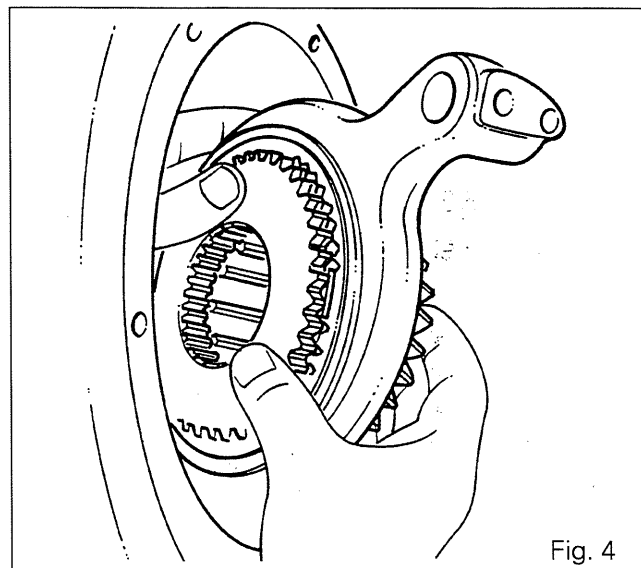
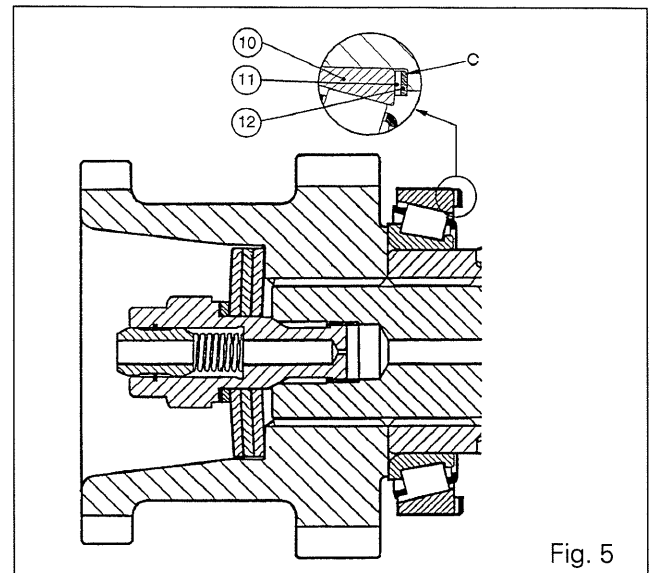
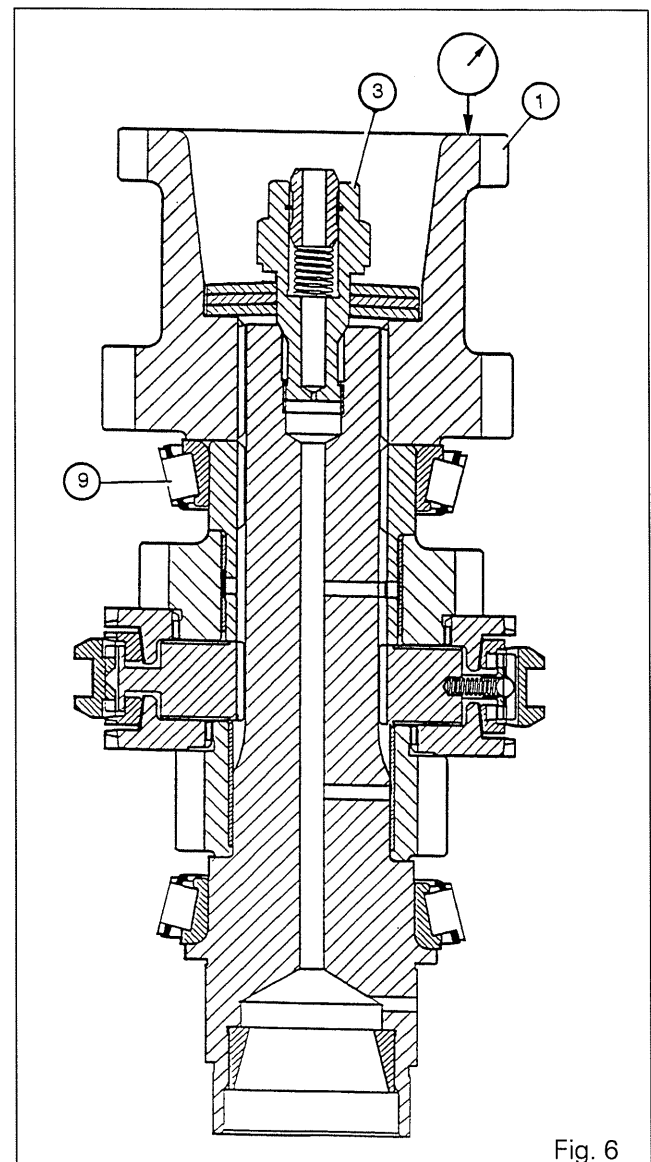
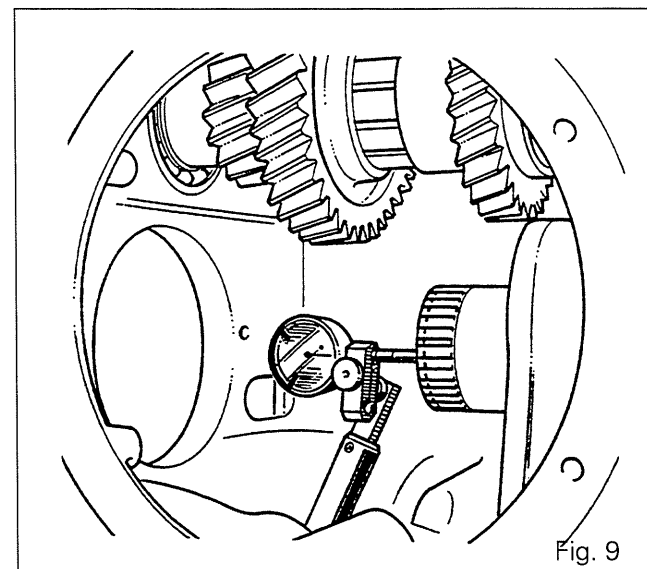

Fig. 4
Fig. 5
Fig. 6
Fig. 9
17. Remove the complete assembly (synchromesh, 2nd gear unit and fork) (Fig. 4).
18. Remove the cups (10) and (21).
19. Remove the shims (11) and the spacers (12), observing the direction of the chamfer C (Fig. 5).
20. Remove the cones (9) and (20) and the cup (22), if necessary. Remove the snap ring (5) from the screw (3).
22. Ensure that the shaft (7) lubrication channels are not blocked.
24. If they have been dismantled, using a press, refit the cones (9) and (20) respectively on the bush (8) and shaft (7). Place the snap ring (5) in the screw (3). Fit the cup (22) in the shaft (7).
25. Place the shaft (7) in a vice. Fit the gears and synchromesh as shown in Fig. 6, without the shims (38) and (39).
26. Tighten the special screw (3) to 30 Nm.
27. Using a comparator measure the axial play of the gear (1) (Fig. 6).
28. According to the play observed and the thickness of the shim (39), choose the appropriate shim thickness(es) (38) in order to obtain a compression of the Belleville springs ranging **between 1.25 and 1.75 mm**.
**Note: If the play observed exceeds 1 mm, it should be reduced by adding just one shim (38) and measured again more precisely.**
29. Remove the screw (3), the Belleville springs (2), the gears unit and the synchromesh.
**Note: Should the input gear (1) be changed on the tractor, the shimming method is the same. First remove the adjustment shims (11).**
**Once the input gear has been adjusted, place the shims (11) as shown in Fig. 5.**
30. Place the spacer (12) with the chamfer (C) facing the casing (Fig. 5).
31. Refit the cups (10) and (21).
32. Check the wear on the synchromesh rings (15) and (17) with the cones (14) and (18). Go to section 5 A01.
33. Assemble the 2nd gear (13), the cone (14), the synchromesh ring (15), the 1st-2nd synchromesh (16), the ring of the first gear (17) and the cone (18).
34. Refit the complete assembly with the fork of the 1st and 2nd gears correctly placed (Fig. 4) between the two walls.
40. Place the contact of the comparator at the end of the shaft (Fig. 9).
**Note: In order to perform a correct preload, reduce the axial play to obtain a value ranging between 0.10 and 0.15, by placing a thickness of shims (11) between the shim (12) and the cup (10).**
45. Place the blocking tool. Loosen the screw (3). Remove the shims (38) and (39), the Belleville springs (2) and the gear (1).
46. Take off the bush (8) together with the cone (9) and the cup (10).
47. Place the shims (11) selected during operation 44, between the correctly mounted spacer (12) (Fig. 5) and the cup (10).